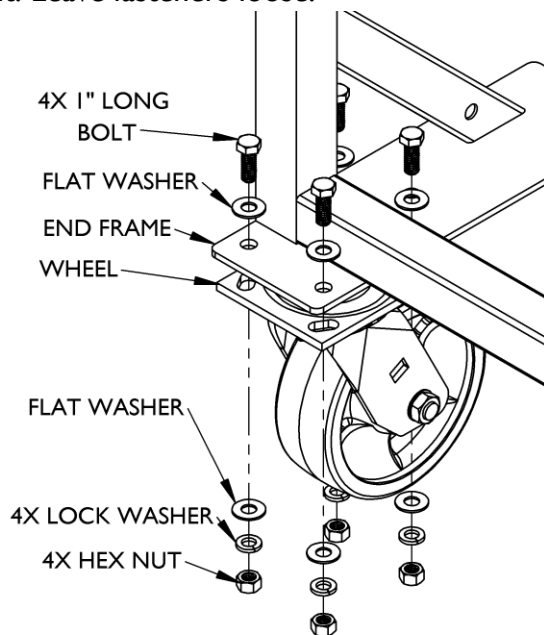

Figure 1
2. Figure 1. Apply anti-seize (included) on each bolt. Leave fasteners loose.